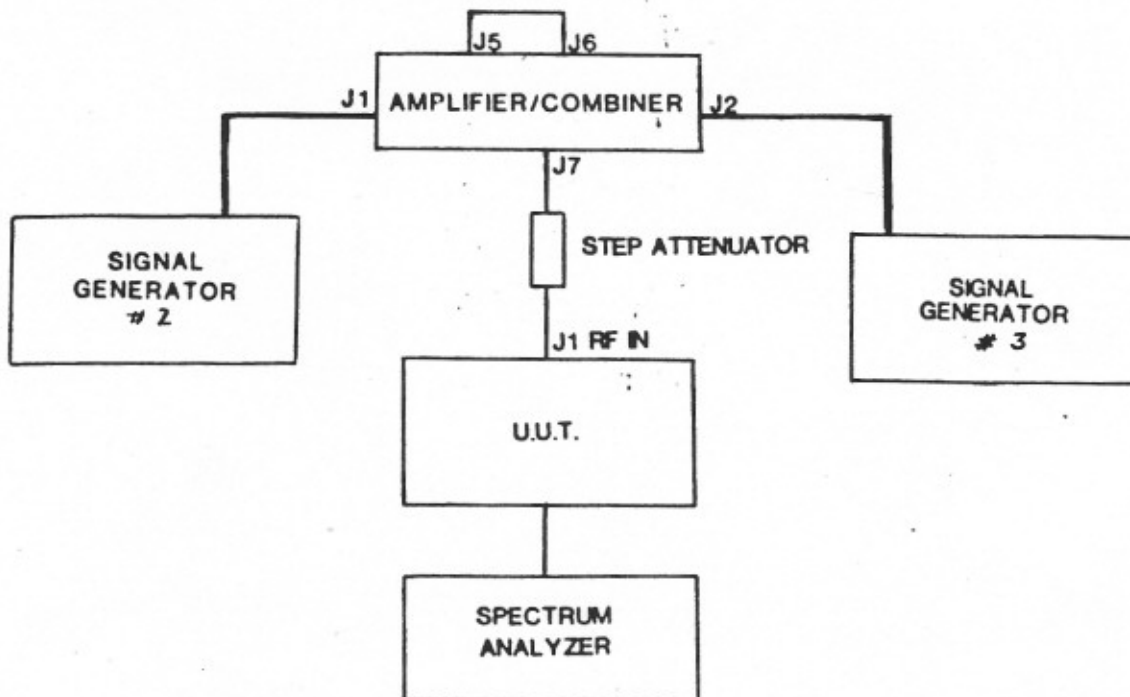

FIGURE 3A
16.2 For 2nd Order Intermods set up equipment as in Figure 3A. Set equipment as follows: